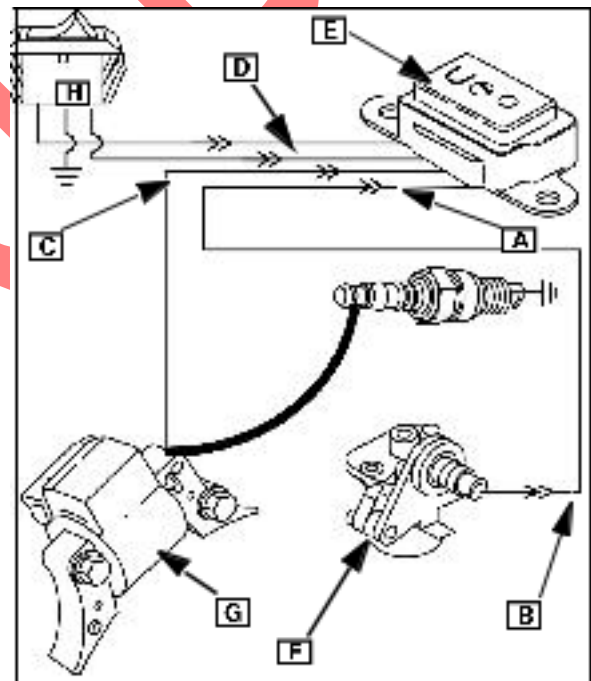

Fig. 52
Disconnect BLUE or BLACK wire at ([A] Fig. 52) and start engine.
Replace the float sensor in the cylinder ([F] Fig. 52).
Disconnect wire at ([C and D] Fig. 52) and start engine.
- Check the ON/OFF rocker switch ([H] Fig. 52).